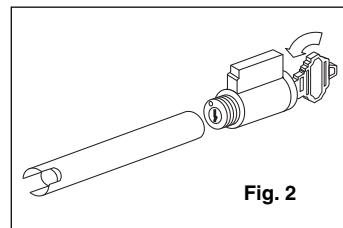

Fig. 2
1. Place key in lock and rotate approximately 1/8 turn to left or right. Place bevelled end of plug follower at back of cylinder plug. (Fig. 2)